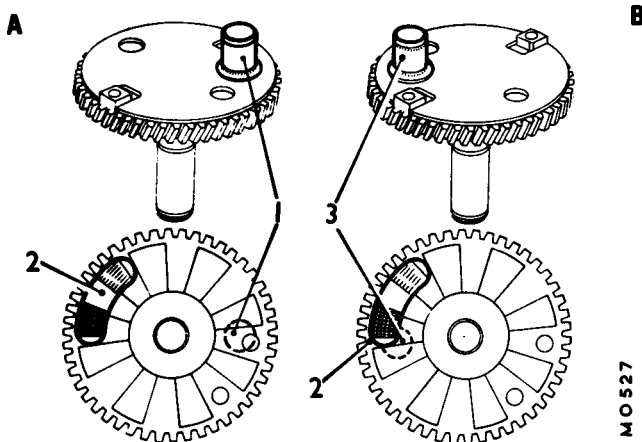

Fig. Nb.10
**IMPORTANT.**— If a new gear wheel is being fitted, ensure that the type obtained has the correct relationship between the crankpin and ramp to give the parking position required for either right- or left-hand-drive vehicles (see Fig. Nb.10).